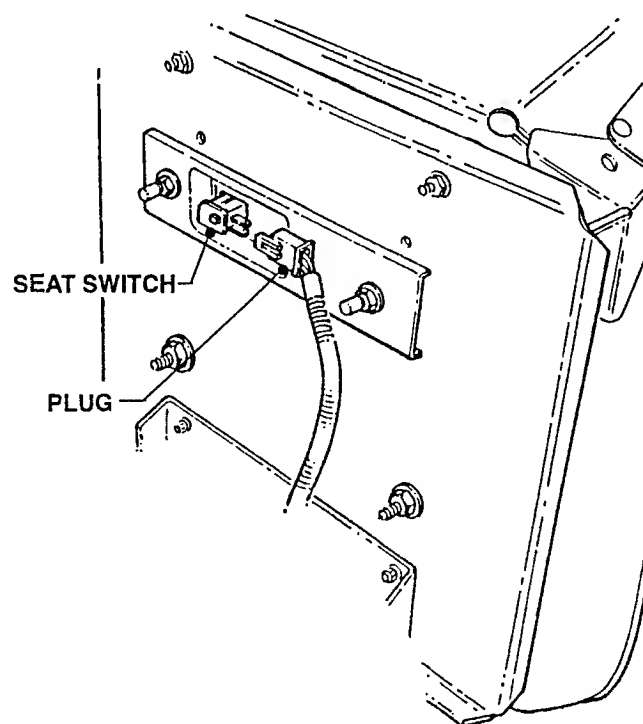

FIGURE 3.8
1. Disconnect Seat Switch Plug from Seat Switch. See Figure 3.8.